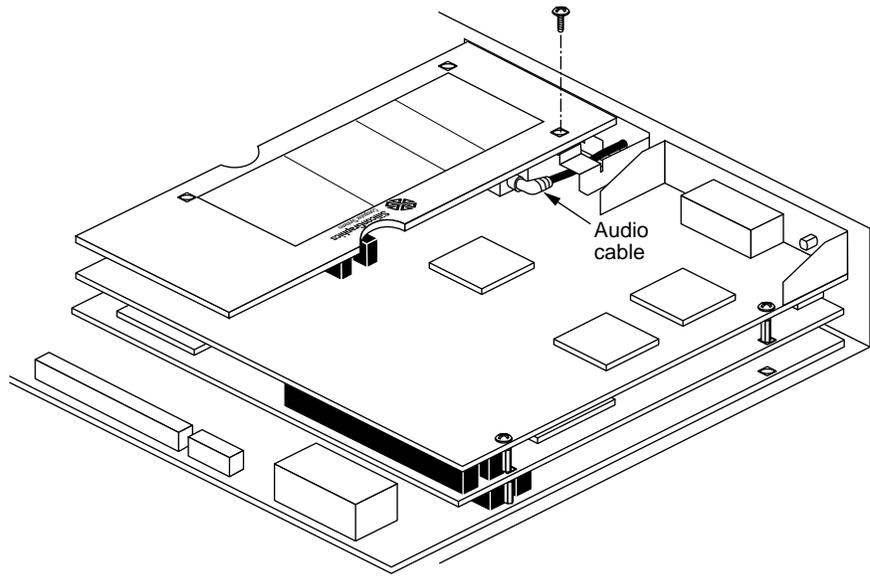

Figure 4-6 Removing the Screw From the Presenter 1280 XZ Board
4. Disconnect the internal end of the audio cable from the board. (See Figure 4-6.)
5. Using a Phillips screwdriver, remove the screw that secures the board to the XZ graphics board, as shown in Figure 4-6.